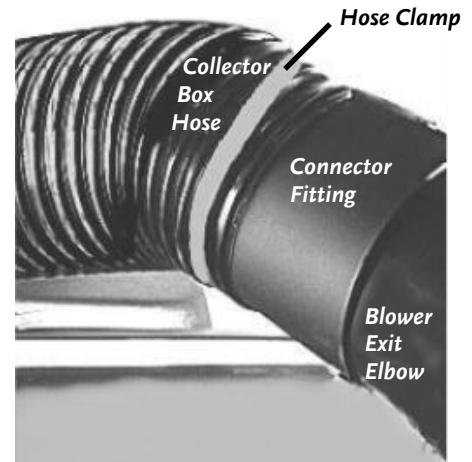

Figure 31
1. Disconnect the Collector Box Hose from the Blower Exit Elbow by loosening the Hose Clamp with a screwdriver or nut driver (**Figure 31**) and separating the hose from the Connector Fitting. Leave the loose clamp on the fitting.